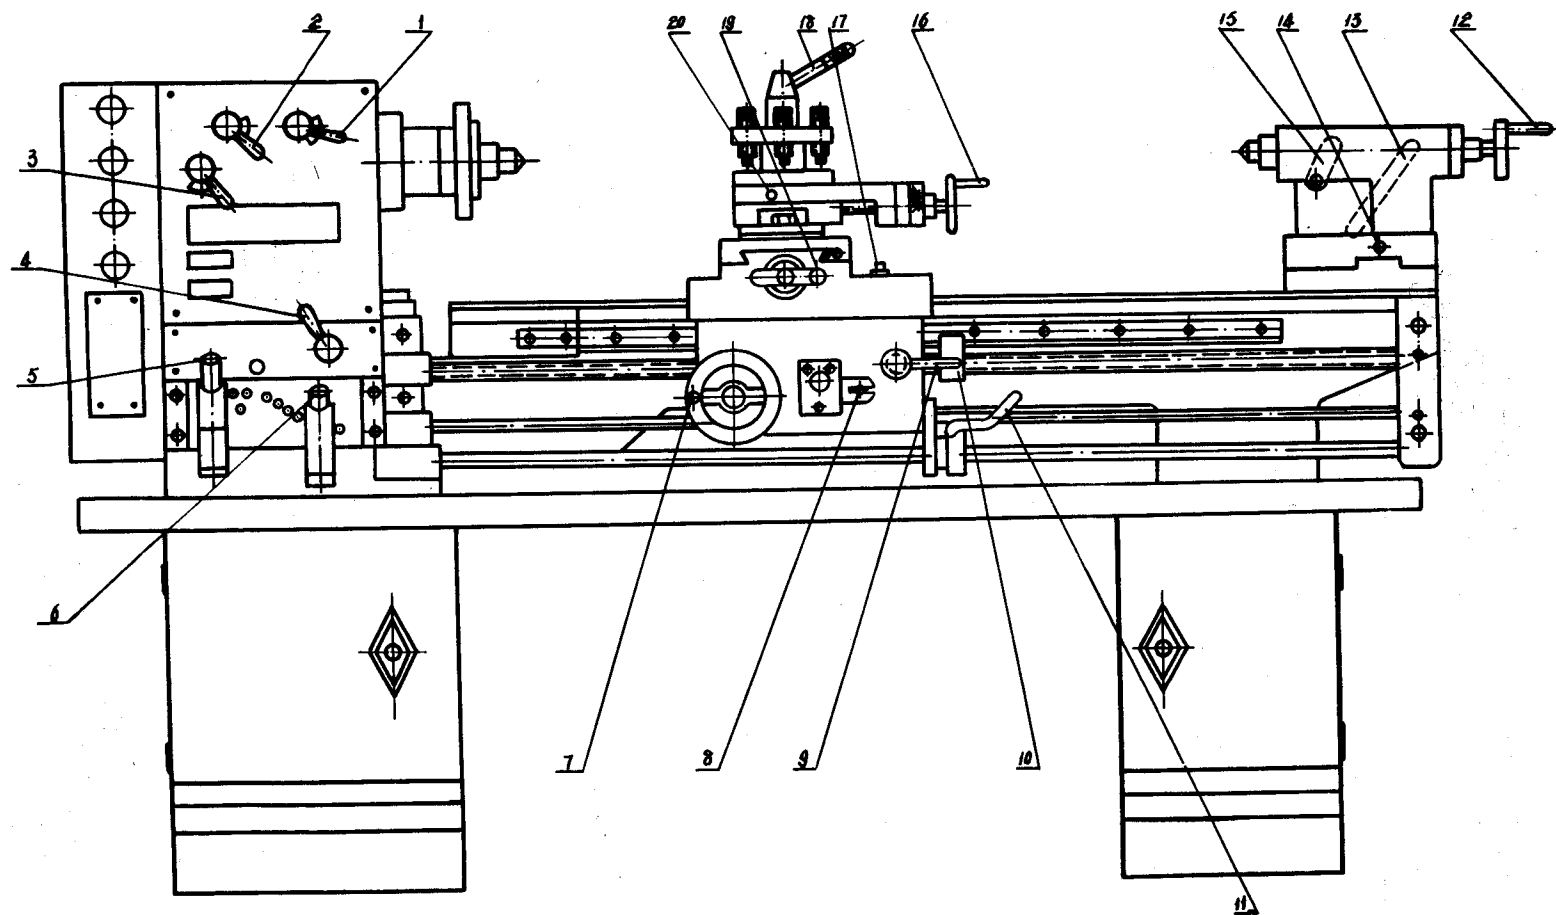

Fig. 16 Machine Operating Levers
4. Machine Operating Lever. See Fig.16